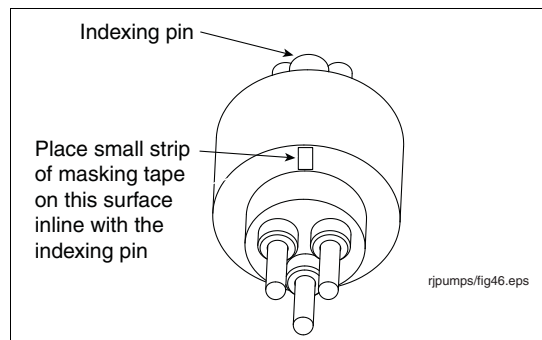

Figure 41. Placing masking tape alignment marker on front of male connector
12. Place a small piece of masking tape on the pins side of the connector inline with the indexing pin (see Figure 41).